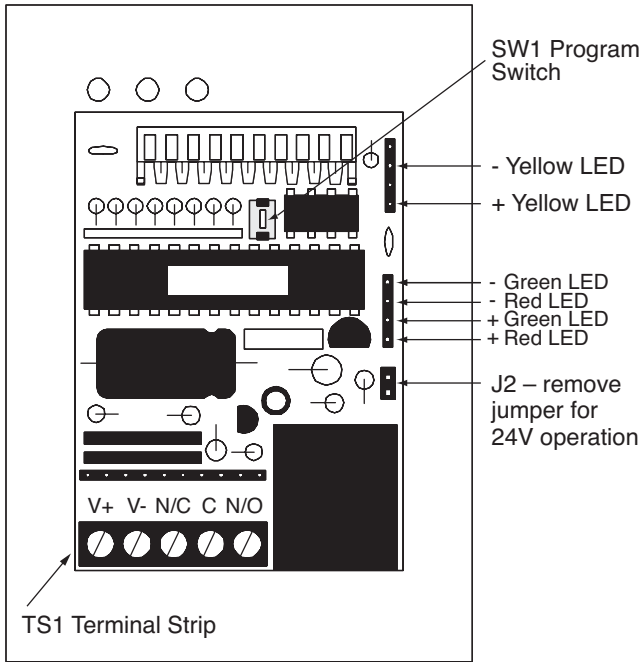

Fig. 5 9212i Circuit Board
- If the master code is forgotten or does not seem to be working, momentarily push SW1 on the circuit board, (see Fig. 5 for location) to enter programming mode and follow step two from above to program a new master code.
- ¹ If the master code is forgotten or does not seem to be working, momentarily push SW1 on the circuit board, (see Fig. 5 for location) to enter programming mode and follow step two from above to program a new master code.